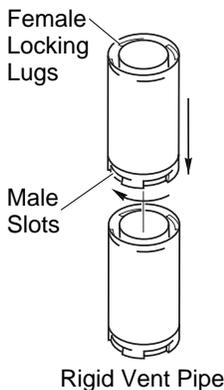

Figure 21 - Vent Pipe Connections
Twist-lock Procedure: The female ends of the pipes and fittings have four locking lugs (indentations). These lugs will slide straight into matching slots on the male ends of adjacent pipes and fittings. (All connections must be sealed with high temperature silicone sealant as specified in the second warning statement on page 10.) Push the pipe sections together and twist one section clockwise approximately one-quarter turn until the sections are fully locked. See Figure 21, page 12. *Note:* Horizontal runs of vent must be supported every three feet. Use wall straps for this purpose.
- Assemble the desired lengths of pipe and elbows necessary to reach from the burner system flue up through the firestop. All connections must be sealed with high temperature silicone sealant as specified in the second warning statement on page 10. Be sure all pipe and elbow connections are fully twist-locked (see Figure 21, page 12).